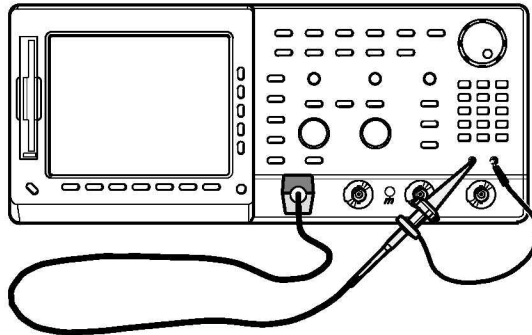

Figure 4-3: Universal Test Hookup for Functional Tests
- a. *Hook up the signal source:* Install the probe on **CH 1**. Connect the probe tip to **PROBE COMPENSATION SIGNAL** on the front panel; connect the probe ground to **PROBE COMPENSATION GND**. (See Figure 4-3 on page 4-7.)